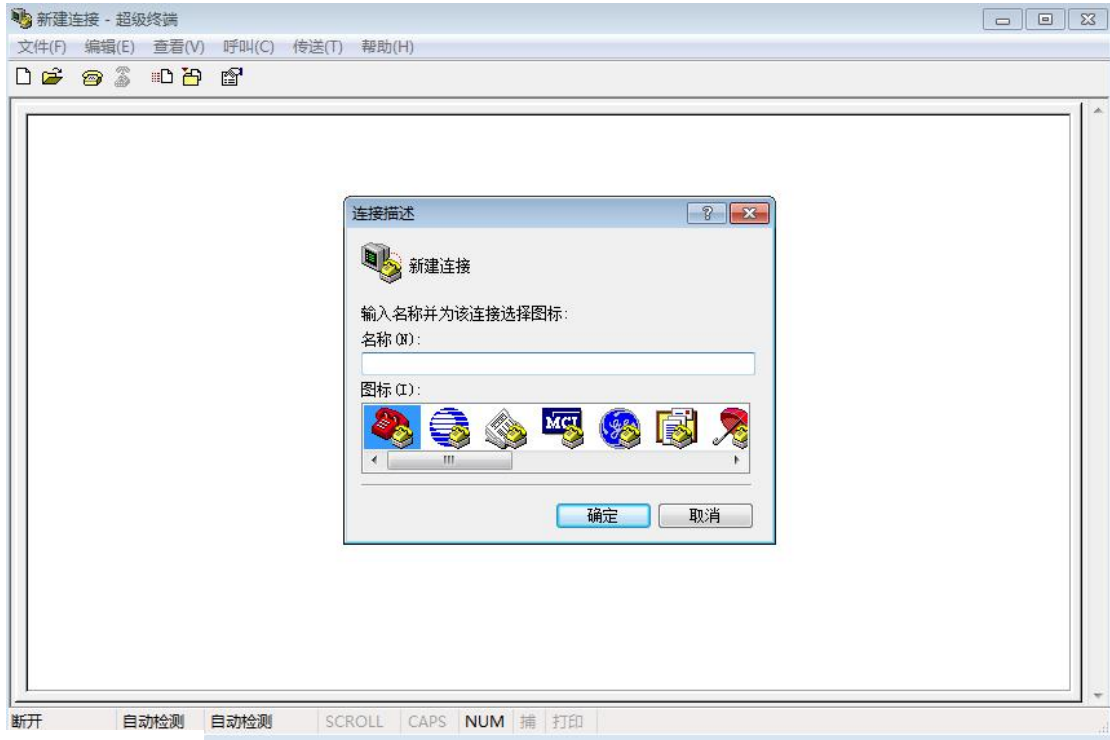
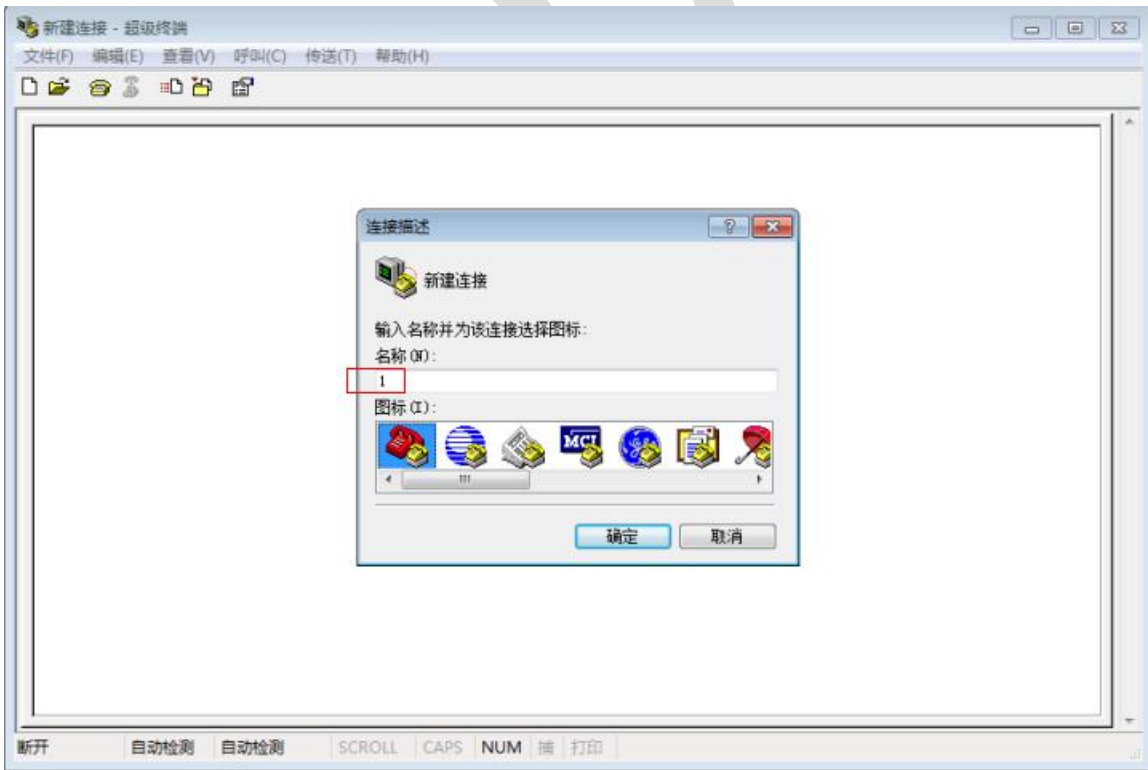

Figure7.10
Figure7.11
7.4.6 Open the software Hyperterm exe as shown in Figure7.10 dialog box, enter 1 in the name bar, and click OK Figure7.11.